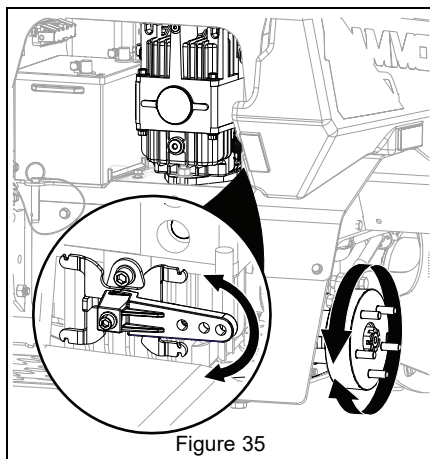

Figure 35
5. Slowly turn pump control arm until hub stops. See Figure 35.